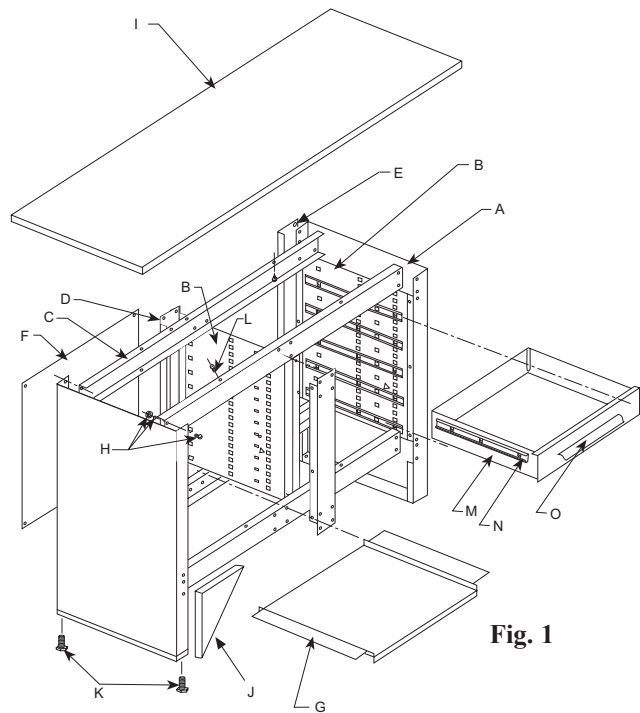
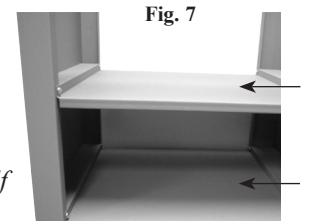
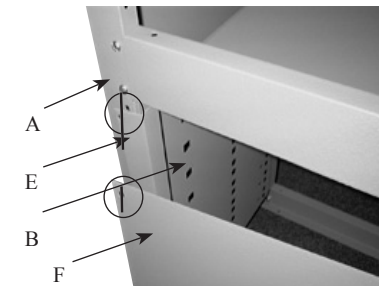

Fig. 1
Fig. 7
Fig. 8
1. Attach drawer pulls (O)—see Fig. 1—with two hex head slotted screws (P) per drawer, using a flat-tip screwdriver.
Place Shelf (G) on bottom rails as shown—wide flange of shelf is on right side—see Fig. 1, Fig. 7. Align holes with holes in end panels and center supports. Attach with (4) Fasteners (H) front and back. Repeat with second shelf as shown in Fig. 7.
1. Attach Drawer Stop (E) between End Panel (A) and Back Panel (F) as shown in Fig. 1, Fig. 8 aligning holes in all four pieces (F, E, A, B). Attach the four pieces at top and attach back panel to center support at top with Fasteners (H).
Attach adjustable leg levelers as shown in Fig. 1. Leave unit upside down for next step.